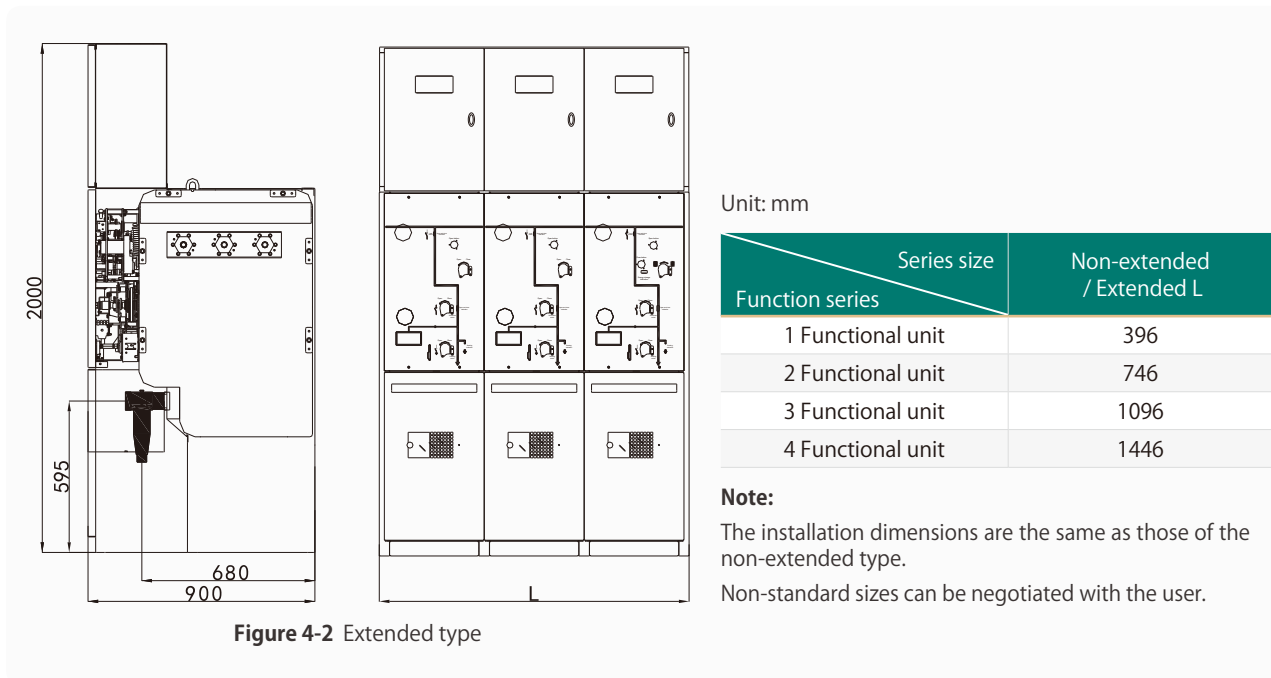

Figure 4-2 Extended type
4.1.2 Extended type (see Figure 4-2)